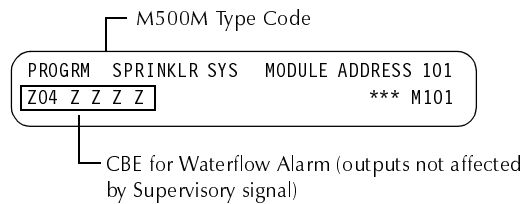

Figure 5-20 Sample Program Screen for a Waterflow Application
5. Program the Monitor Module for type code SPRINKLR SYS or COMB. MONITOR (Figure 5-20).
7. A Supervisory signal does not affect the outputs listed in the Monitor Module CBE (Figure 5-20).
Figure 5-20 shows a sample program screen for a waterflow application: